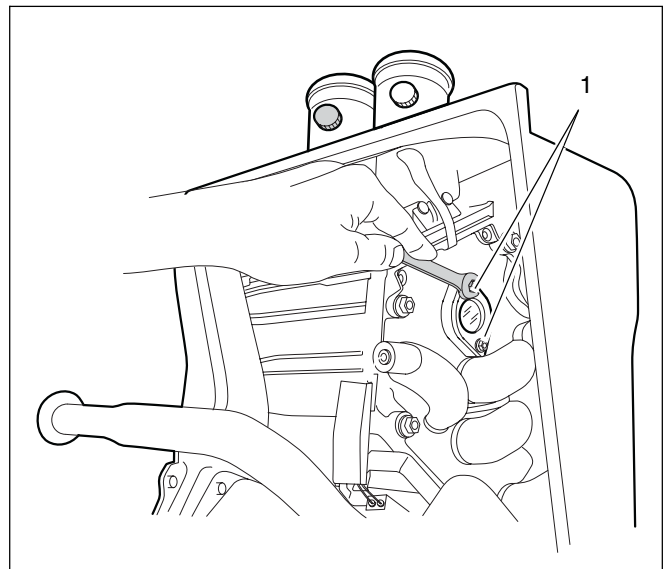

Fig. 112 Loosening the screws of the sight glass
- Loosen both screws of the sight glass (see fig. 112, pos. 1).